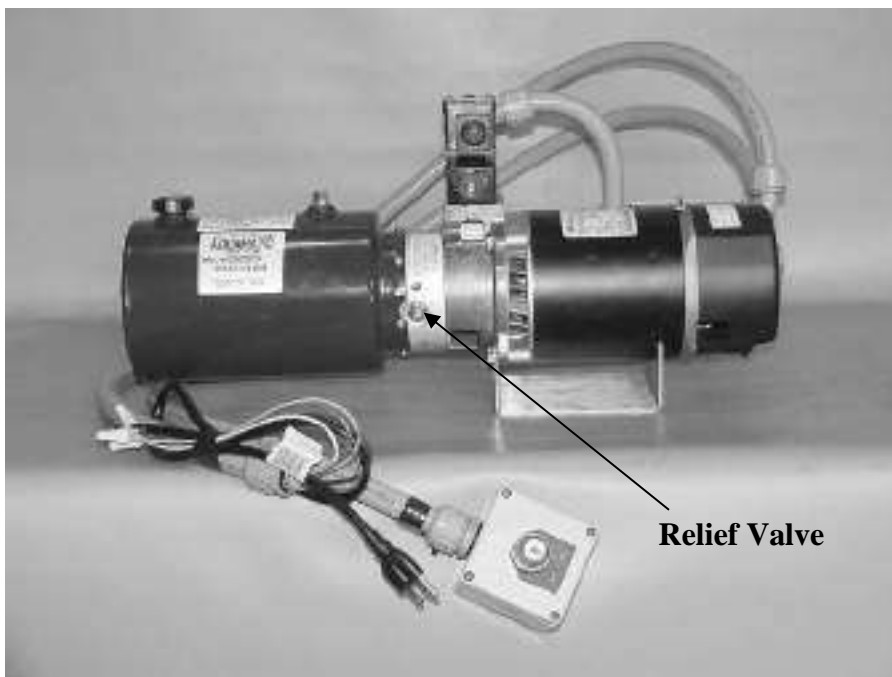

Fig 22
2. Loosen the lock nut and turn the relief valve with an Allen key. Turn the relief valve clockwise to increase the pressure and counter-clockwise to reduce the pressure. (Fig 22)